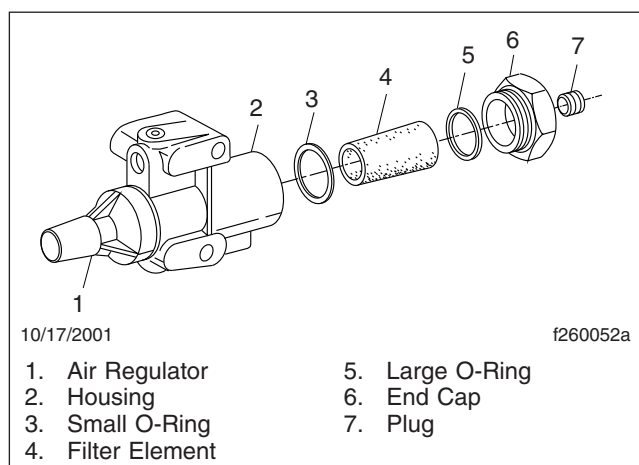

Fig. 6, Eaton/Fuller Transmission Air Filter/Regulator Components
3. Remove the end cap, large O-ring, and filter element from the filter housing. See Fig. 6. Remove the small O-ring from the end cap.